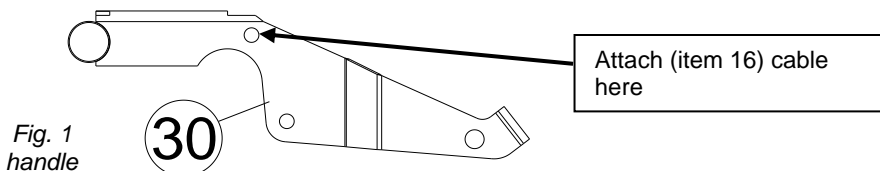

Fig. 1
- REMOVE** the two bolts and nuts from the hardware bag (item 4 and 38).
- ATTACH** the upper handle (item 73) into the side braces with the hardware (items 4 and 38). *NOTE:* The bail should be facing downward.
- ATTACH** the tine lift cable (item 16) to the Tine lever (item 30) upper hole on the handle (see *Fig. 1 handle* below and reference Parts Illustration page 10) by inserting the pin (item 55) into it in the hole closest to the end of the handle. Retain with Rue ring.
- ATTACH** the bail cable (item 54) to the bracket on the handle (item 74) by sandwiching the two nuts on the bracket and tightening. Install cable adjuster (item 52) by threading it on the end of the cable until thread begins to show. *NOTE:* **Protruding portion of the threaded adjuster must be facing the operator when installed.** Check to make sure the cables are functioning properly before operation and not binding. If adjustments are needed for belt tension on the bail cable, loosen the nuts and move the sandwiching position up or down for the desired tension. *NOTE:* if the tension is too loose the tines will not engage and if it is too tight premature wear could happen to the belt.